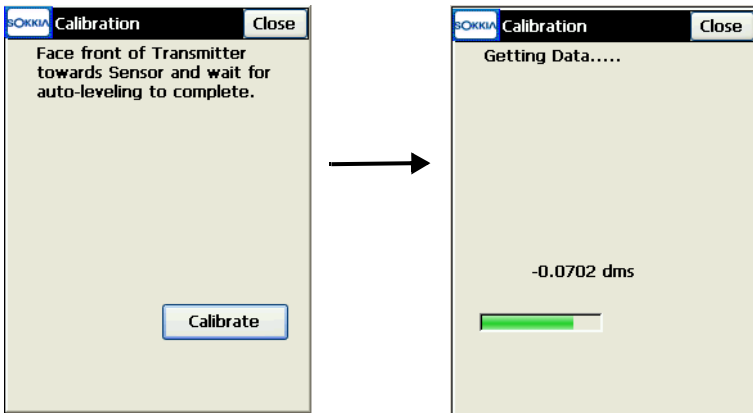

Figure A-16. Begin Field Calibration
7. Tap **Calibrate** after the auto-leveling process completes (Figure A-16).